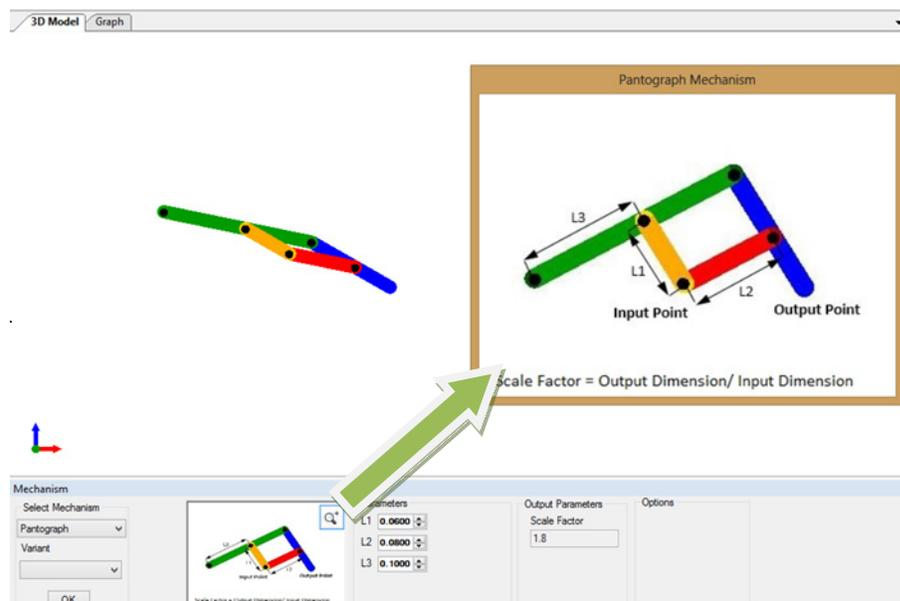

Figure 2: Mechanism description window opened by clicking the zoom button.
- The mechanism parameters window using the zoom button as shown in Figure 2 can be opened to relate the various lengths to the parameters of the mechanism. The window also defines any output parameters of the mechanism